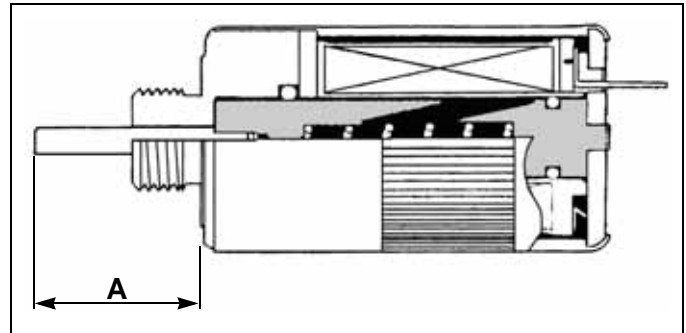

Fig. 5-3
1. Using a suitable measuring device, measure the protrusion distance, "A" (page 5-2, Fig. 5-3), on the solenoid. The distance should measure between 1.00–1.04 in. (25.5 - 26.4 mm). If the distance is not within these specifications, the solenoid is defective and needs replaced.